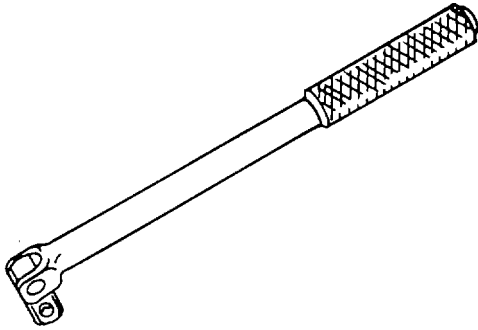

Figure 4-29. Hinged Handle
3. *Hinged handle.* A hinged handle has a hinged adapter on one end which may be rotated in 90-degree steps. The hinged handle is used when additional leverage or torque is needed to loosen nuts or bolts. This type of handle is shown in figure 4-29.